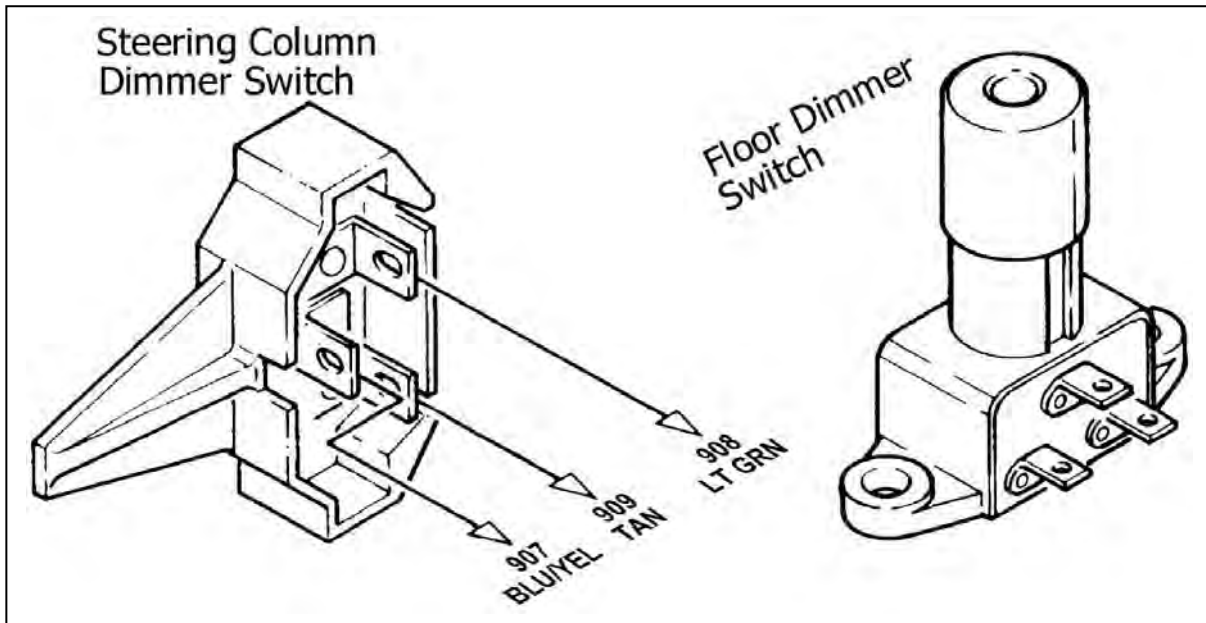

Figure 8.4 Dimmer Switches (Push Button Style – Painless Part #80150)
- 8.3.5 Connect the DIMMER SWITCH SECTION cable to the floor mounted dimmer switch. If you have a column mounted dimmer switch, the plug is the same as the floor mount version. See **Figure 8-4**.